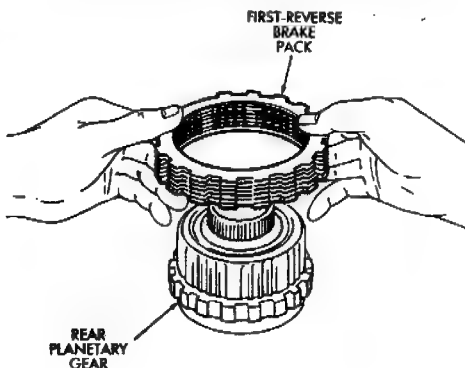

Fig. 4 Removing/Installing First-Reverse Brake Pack
(8) Install planetary gear in ring gear.
(9) Assemble clutch discs and clutch plates (Fig. 4). Sequence is disc first, then a plate. Use seven discs and plates in a 6-cyl. transmission and six discs and plates in a 4-cyl. transmission.
(10) Install brake pack on planetary gear (Fig. 4).